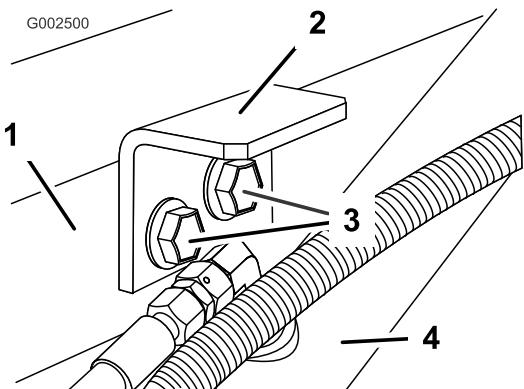

Figure 8
3. Install the hold-down brackets using the 2 bolts and flange nuts removed previously (Figure 8).